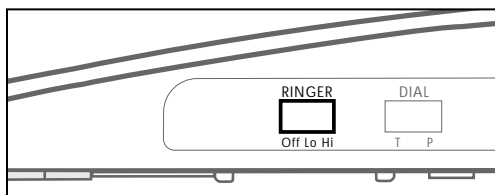

Figure 11 - Ringer Volume
1. You can adjust the **RINGER VOLUME** as high as 95 dB. The settings available are **OFF**, **LO** and **HI** as shown in Figure 11.